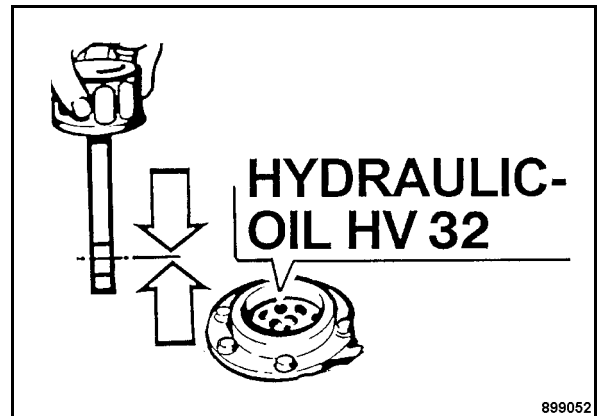

Fig. 99
- Fill in new hydraulic oil (Fig. 99).